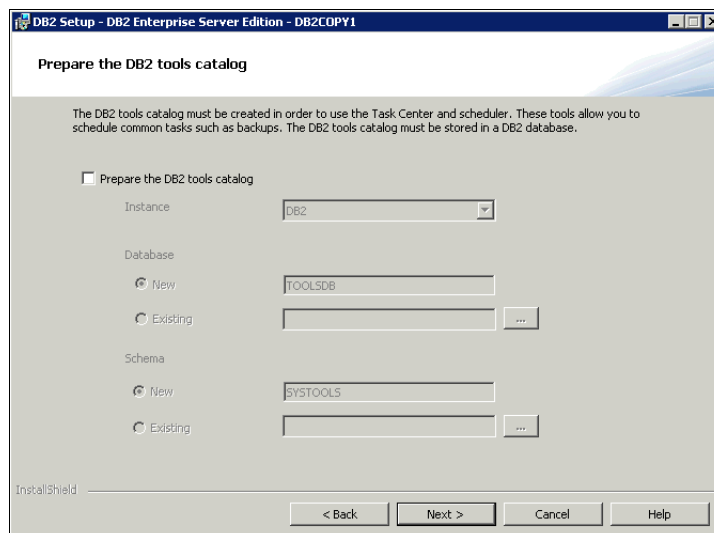

Figure 12-13 Prepare the DB2 tools catalog
12. Specify options to prepare the DB2 tools catalog (Figure 12-13). Verify that **Prepare the DB2 tools catalog on this computer** is clear. Click **Next** to continue.